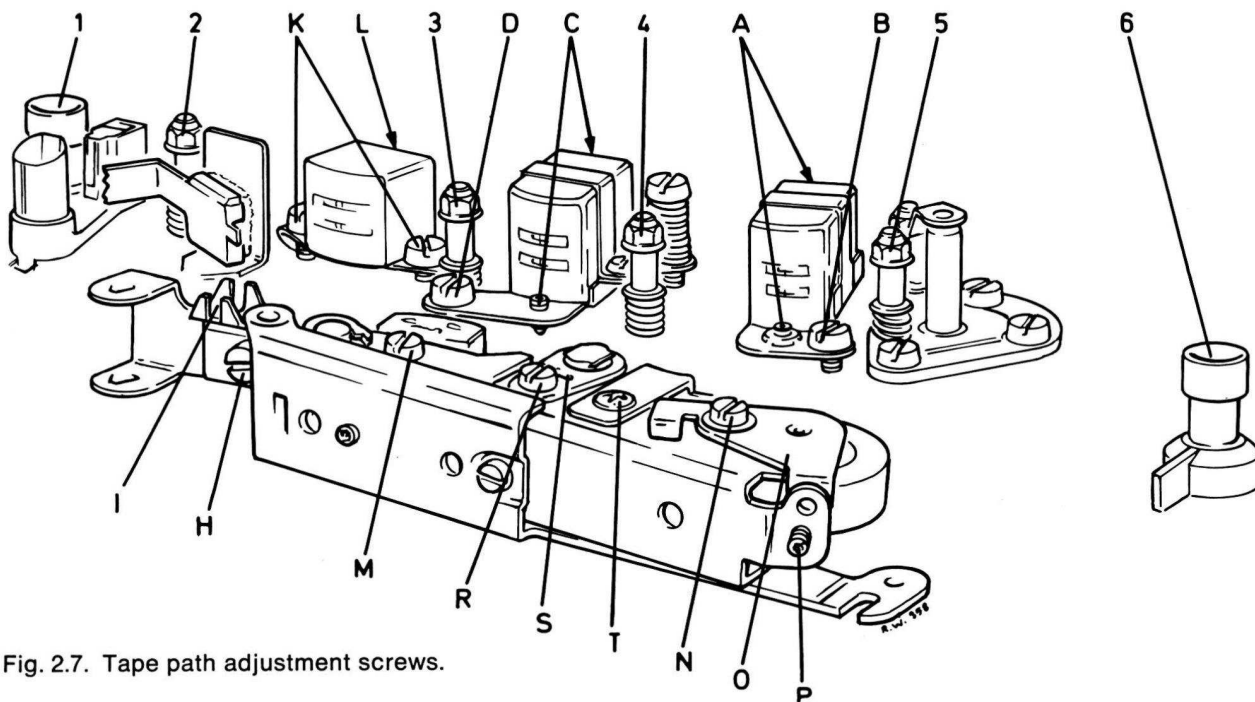

Fig. 2.7. Tape path adjustment screws.
Load the recorder with a tape, and move the operating lever slowly to the normal forward drive position. Check that the bias head neither touches the height adjustment screws C, see fig. 2.7, on the record head mounting plate, nor presses the tape against the record head. Also check that the bias head is parallel to the record head.
Insert a tape and set operating lever to normal forward drive. Check by visual inspection that the capstan and the pinch roller wheel are parallel. If not, adjust by first loosening screw (N), see fig. 2.7, and then adjust with set screw (P) until the wheel and capstan are parallel. Tighten screw (N).
Set the operating lever to normal forward drive with tape on the recorder. Loosen screw R, see fig. 2.7, on the inertia idling roller adjustment plate 291180. Insert a screwdriver in slots of the plate and press forwards or backwards until the idling roller is parallel with the heads. Note that the tape does not bulge on any side of the roller. Then tighten the screw.
By giving the inertia idling roller a light inclination (see paragraph 2.3.6), the roller will give the tape a light upward lift causing the tape to touch the upper flange on the tape guide posts 2, 3 and 4, see fig. 2.7. The result is a precise guidance of the tape past the heads. For a best possible result, readjust the tape guide posts 2, 3 and 4 so that each one slightly touches the tape with the upper flange, taking care to avoid that the tape bulges at any of the guide posts. The guide posts are adjusted in the sequence 4, 3, 2, see fig. 2.7, while the tape is moving at $7\frac{1}{2}$ ips. Repeat the adjustment until the tape guidance is as smooth as possible.
Play back Tandberg test tape No. 1. This is a full track prerecorded tape with 1000 Hz recorded at $7\frac{1}{2}$ ips and with area corresponding to track 3 reduced by approx. 30 dB. Adjust the height of the playback head by means of the screws (A), see fig. 2.7, until minimum output is obtained from track 3 (channel R), while endeavouring to maintain the headfront parallel to the tape.
Play back Tandberg test tape No. 2. This is a full track prerecorded tape with 10,000 or 15,000 Hz recorded at $7\frac{1}{2}$ ips. Adjust the azimuth position of the playback head by means of screw (B), see fig. 2.7, until maximum indication on the voltmeter is obtained on both channels, or best compromise.
Insert a new tape, and start the recorder in normal forward drive. Check visually that the tape appears to run parallel with the upper track of the record head, with a play of approx. 0.1 mm (0.004"), see fig. 3.2. If necessary adjust the height with screws (C), see fig. 2.7, while endeavouring to maintain the headfront parallel to the tape.